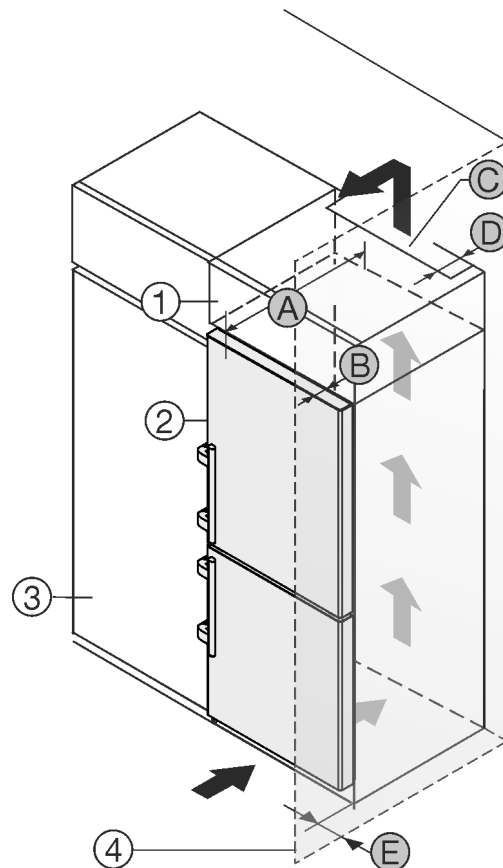

Fig. 2
- (1) Top cabinet \*      (B) Door depth \*
(2) Appliance \*      (C) Ventilation cross section \*
(3) Kitchen cabinet \*      (D) Distance to the back of the appliance \*
(4) Wall \*      (E) Distance to the side of the appliance \*
- (A) Appliance depth \*
You can place the appliance directly beside the kitchen cabinet *Fig. 2 (3)*.\*
There must be a ventilation shaft at the depth *Fig. 2 (D)* of the back of the top cupboard over the entire width of the top cupboard.\*
The ventilation cross-section *Fig. 2 (C)* must be maintained under the ceiling.\*
If the appliance is set up with the hinges next to a wall *Fig. 2 (4)*, the distance between the appliance and the wall must be at least 57 mm. This is how far the handle protrudes when the door is open.\*
In order to be able to fully open the door, the appliance must protrude by the depth of the door *Fig. 2 (B)* from the front of the kitchen cabinet. The appliance may protrude further depending on the depth of the kitchen cabinets *Fig. 2 (3)* and whether wall spacers are used.\*